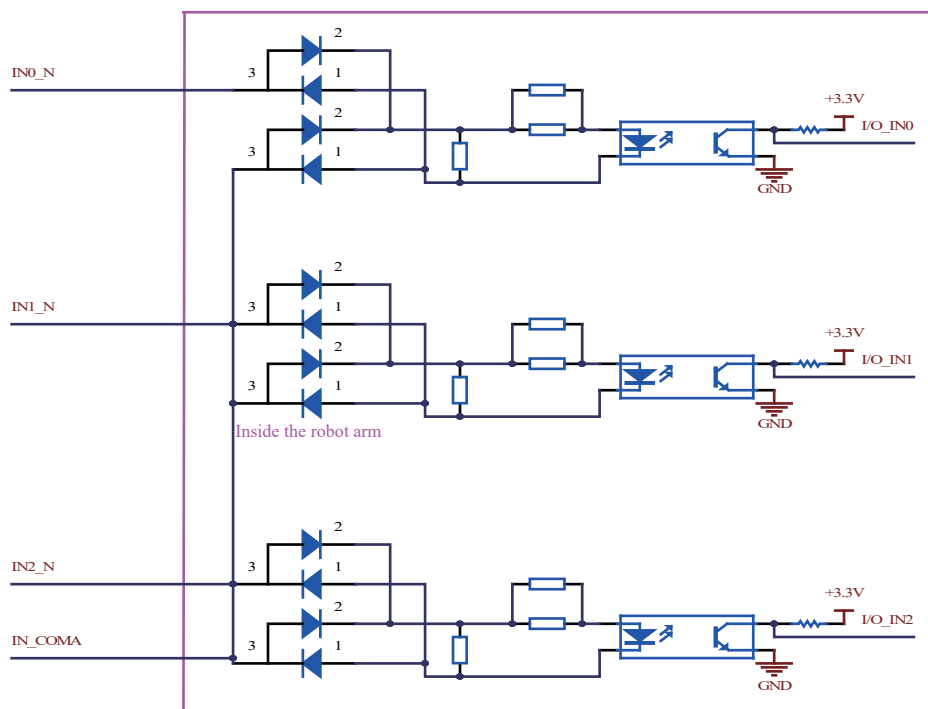

Figure 5
(4) J4 I/O input port internal simplified circuit design (shown in Figure 5)